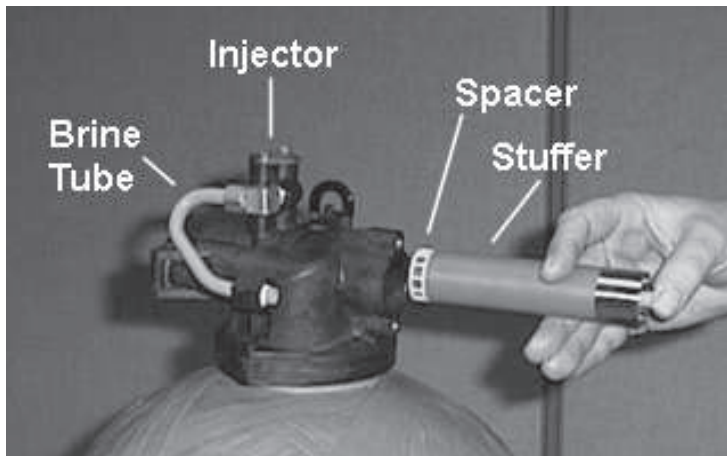

Figure 8
11. To replace seals, spacers and end ring, use special tool with the brass sleeve on one end. This is a double-purpose tool (see Figure 8). The male end acts as a pilot to hold the spacers as they are pushed into the valve body and the brass female end is used to insert the seals into the valve body.
12. To restuff a valve body, first take the end ring (the plastic or brass ring without holes), then with your thumb press the button on the brass sleeve end. The large dia. inner portion is now exposed (see Figure 8). Place the end ring on this pilot with the lip on the end ring facing the tool. Push the tool into the valve body bore until it bottoms. While the tool is in the valve body, take a seal and press it into the inside diameter of the exposed brass female end.